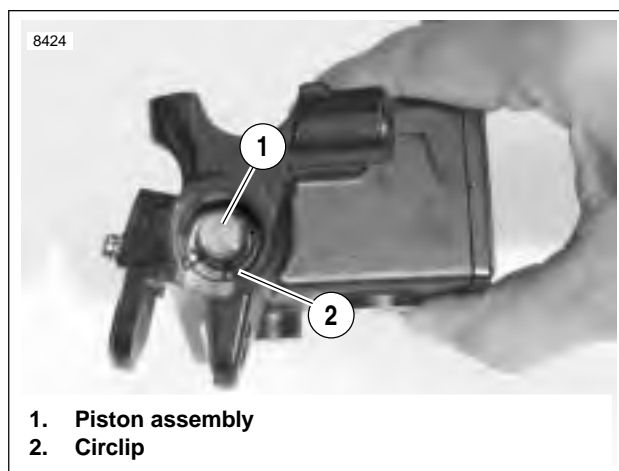

Figure 2-35. Piston Assembly in Master Cylinder
4. See Figure 2-35. Depress piston assembly (1) and remove internal circlip (2) and discard.
5. See Figure 2-35. Secure piston assembly (1) with a **new** circlip (2).